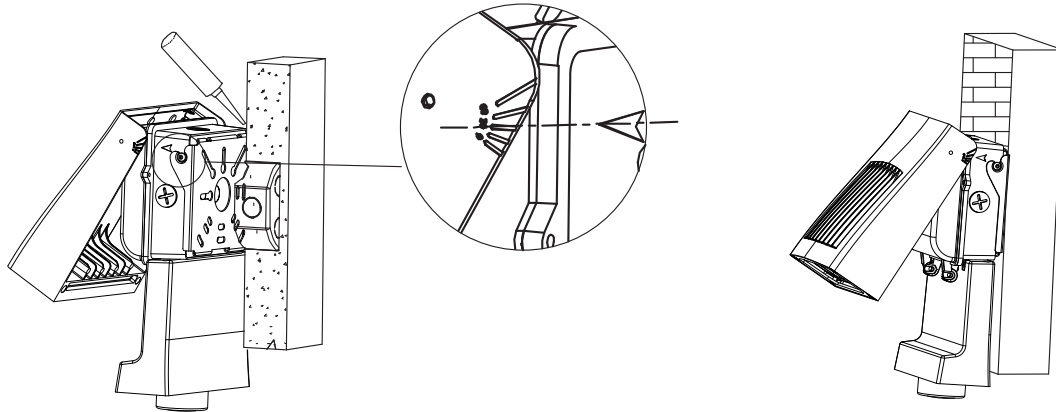

Figure 7
11. Applying silicone caulk around the perimeter of the driver box where it meets the wall to ensure a water-tight seal. Finally adjust the fixture head angle according to project needs and secure it by locking the side hex screw and installation is complete. (figure 7).